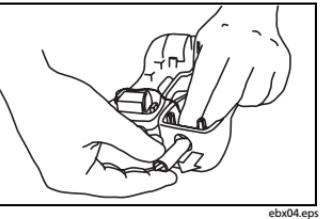

Figure 4. Inserting the Line Cord
- From the inside of the housing, slip the line cord clips through the hole in the housing (Figure 4).